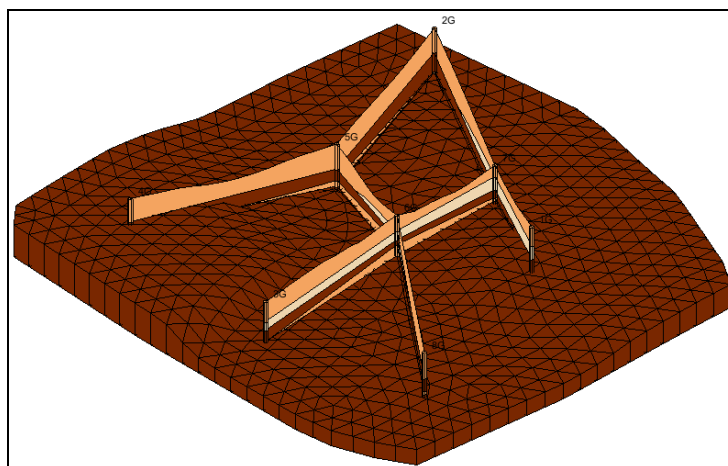

Figure 10 Previous Silty_Clays 1 solid
3. Turn on the corresponding solid (“Silty_Clays 1”) in the “solids (2)” folder. Notice the area that the solid covers (Figure 10).
4. Turn on and off (“Silty_Clays 1”) in the “solids (2)” folder until comfortable with the difference between the one from “solids (2)” and the one from “solids (3)”.